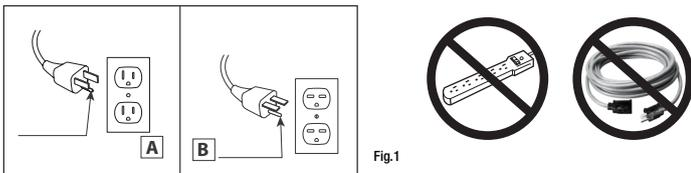

Fig.1
1. Align the mounting tab into the bracket and lower the leg into place. (Fig 1)
12. Connect to properly grounded outlets only. This heater is for use on 120 volts. The cord has a plug as shown at A in Fig.1. Do not use a 2 prong adapters. Never use with an extension cord or relocatable power tap (outlet/power strip).